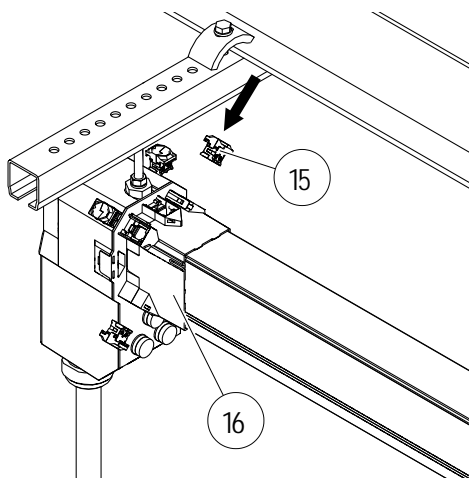
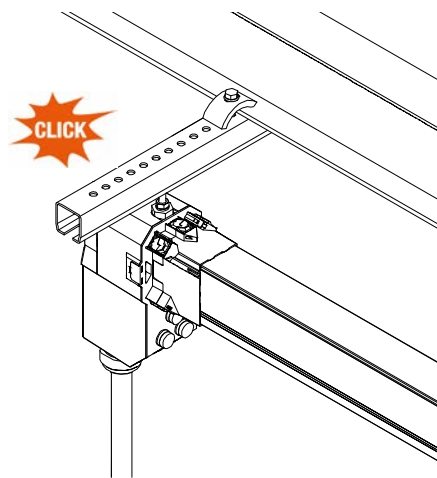

Fig. 54: Install clamps (Pos. 15)
Fig. 55: End feed is connected
- Place the 5 clamps (Pos. 15) in the connector cap recesses (Pos. 16) and press in as far as the click-in point (see Fig. 54 and Fig. 55).